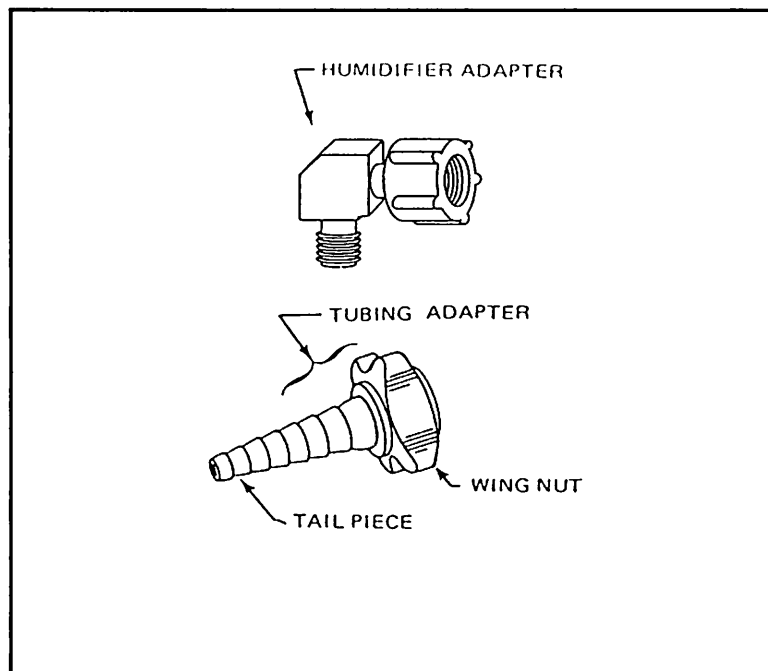

Figure 1-5: Oxygen Outlet Adapters
- 1) Remove humidifier adapter (Figure 1-5) from side panel filter compartment.
- 1) Place wing nut on tail piece to form tubing adapter (Figure 1-5).